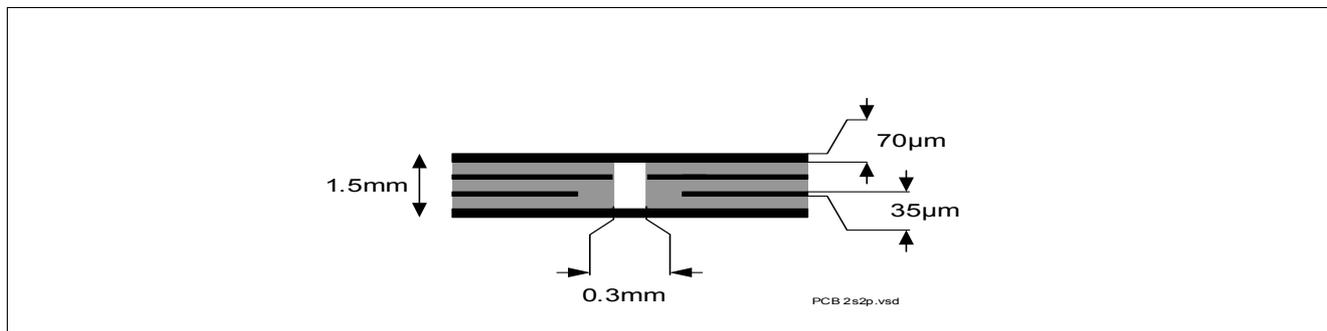

Figure 4 2s2p PCB Cross Section
- 2) Specified R_{thja} value is according to JEDEC JESD51-2,-5,-7 at natural convection on FR4 2s2p board; The product (chip + package) was simulated on a 76.4 x 114.3 x 1.5 mm board with 2 inner copper layers (2 x 70µm Cu, 2 x 35 µm Cu). Where applicable, a thermal via array under the exposed pad contacts the first inner copper layer. Please refer to Figure 4.